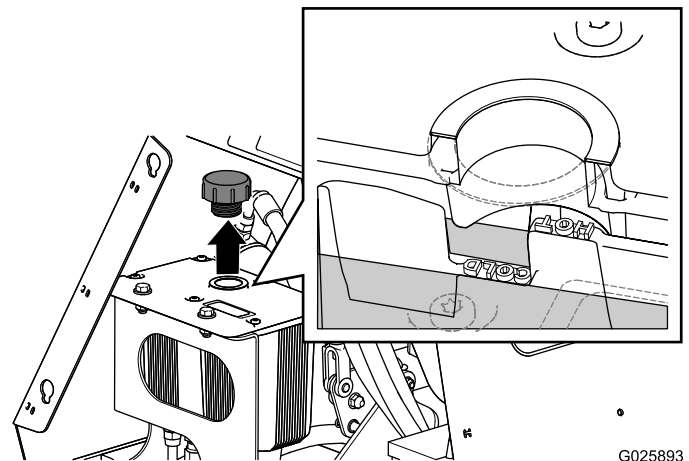

Figure 58
5. Clean area around hydraulic reservoir cap (Figure 58).
6. Remove the cap and check hydraulic oil level in the reservoir (Figure 58).
7. If necessary, add the specified hydraulic oil to the reservoir until the oil covers the **Cold** oil level on the baffle (Figure 58).
8. Replace hydraulic reservoir cap and tighten until snug (Figure 58).